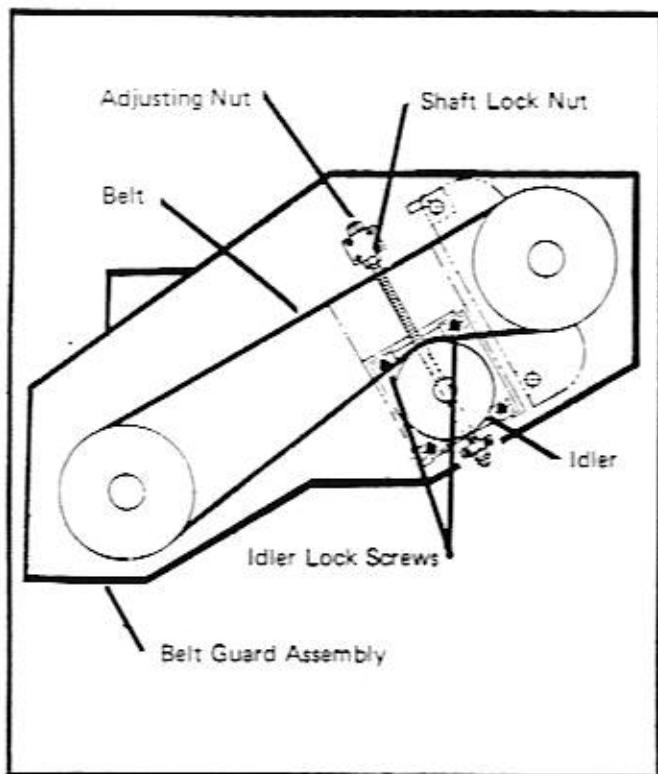

Figure 14-11
2. Loosen the four (4) idler lock screws. See Figure 14-11.